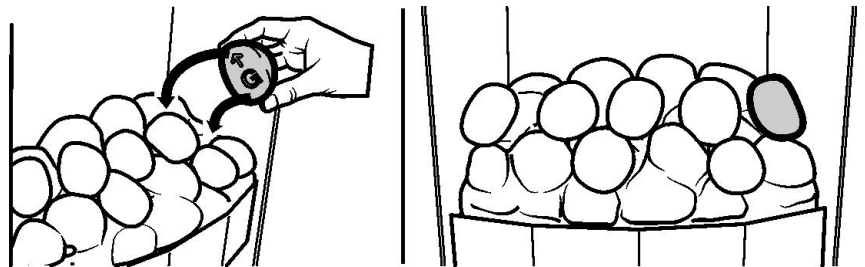

Figure 9.
9. Hold pebble 'G' upright with the arrow pointing to the top. Place pebble "G" between the front and rear base pebbles. It should lie against the side of the firebox and bridge the gap between the front and rear base pebbles (See figure 9).